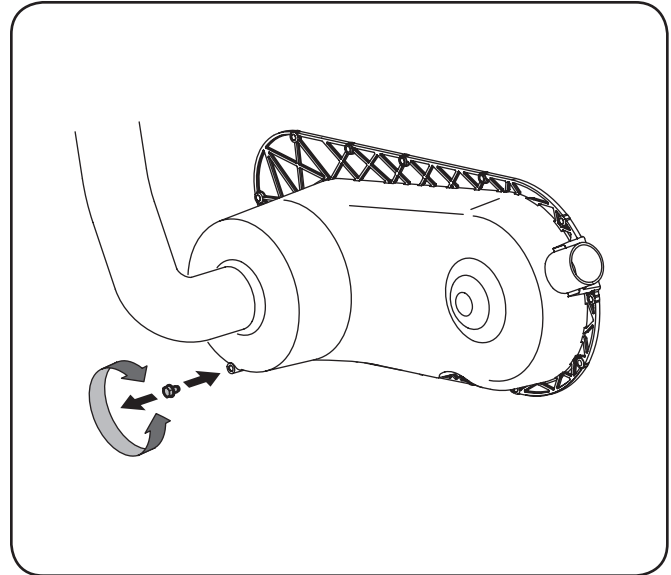

Figure 6-9
1. Remove CVT cover drain plug. See Fig. 6-9.